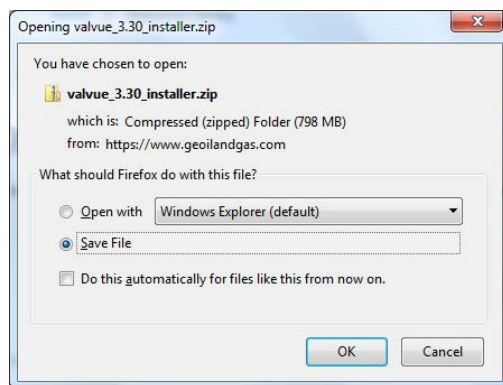

Figure 3 - Opening Dialog
2. Use the arrows to move through the selections. Select Download below ValVue V3.30 Installer Download and Figure 3 appears.
2. Use the arrows to move through the selections. Select Download below Masoneilan 12400 Level - DTM V2.20 and Figure 3 appears.